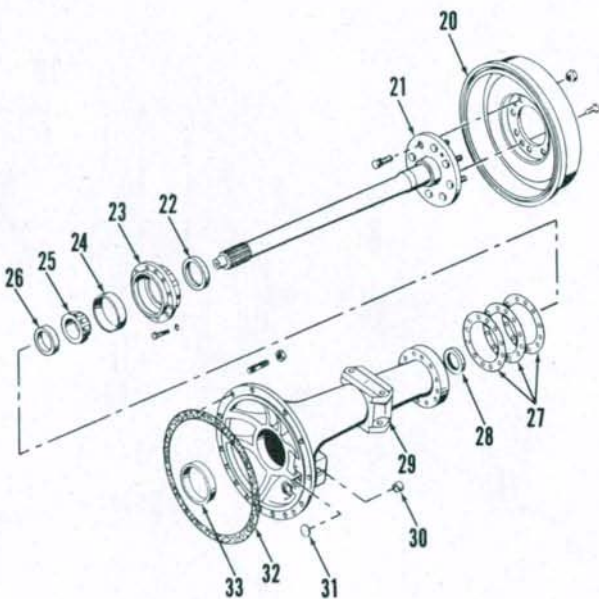

Fig. 159—Exploded view of rear axle and associated parts typical of all tractors except Orchard models and MF250 models.
165. REMOVE AND REINSTALL. The axle shafts (21—Fig. 159) can be removed from tractor without removing axle housings (29) if desired. Raise and support rear of tractor, then remove rear wheel and tire. Remove brake drum retaining screws and pull drum from axle flange. Remove cap screws attaching retainer (23) to axle housing, then
166. OVERHAUL. The axle retainer (23—Fig. 159) and bearing cone (25) are retained on axle shaft by a shrink-fit steel collar (26). To renew axle shaft, bearing, retainer or outer oil seal (22), first drill the collar, then split collar using a hammer and chisel. Pull the retainer, bearing and collar from axle shaft using a suitable puller or press.